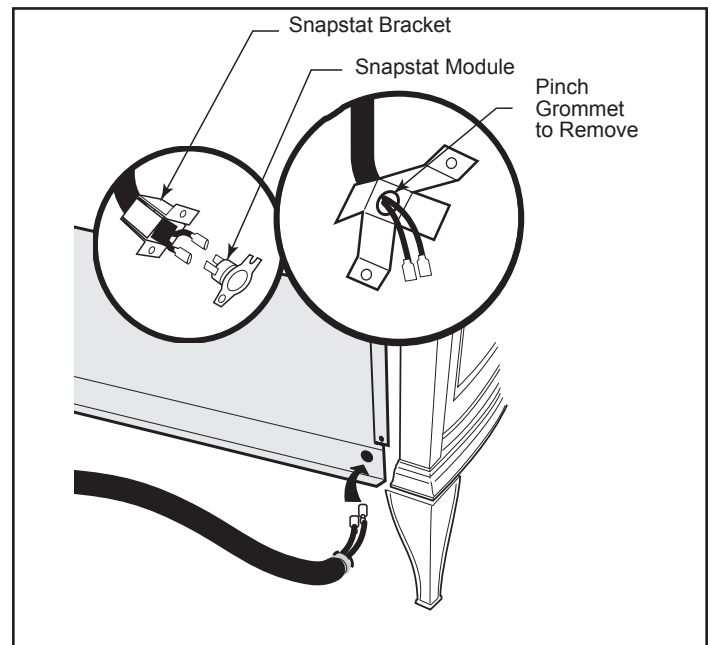

Figure 10 - Remove the snapstat and grommet from the bracket and insert the grommet into the inner shroud.
5. Connect snapstat leads. Disconnect the snapstat module from the leads inside the snapstat bracket. (Figure 10) Bend open the snapstat bracket. Use needlenose pliers to remove the black plastic grommet from the bracket. Discard the bracket. Insert the grommet and wires into the large hole at the bottom right corner of the inner shroud. Feed the snapstat wire leads through the grommet into the stove interior. Connect the two wires to the two snapstat extension leads attached to the inner shroud.